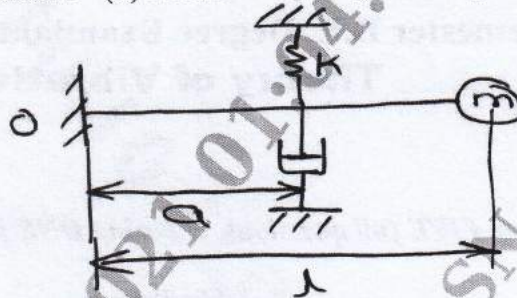

Fig.Q4(b)
- b. Obtain the differential equation of motion for the system shown in Fig.Q4(b) and hence find